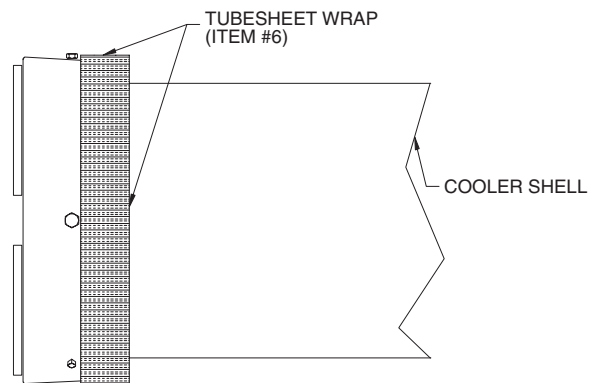

Fig. 7 — End Tubesheet Wrap
2. Complete the insulation of the end tubesheet by insulating the exposed edges of the tubesheet and face insulation, using Item 6. See Fig. 7. Note that the notch in this piece allows the lifting hole on the head to pass through.
2. Complete the insulation of the end tubesheet by insulating the exposed edges of the tubesheet and face insulation, using Item 6. See Fig. 7.